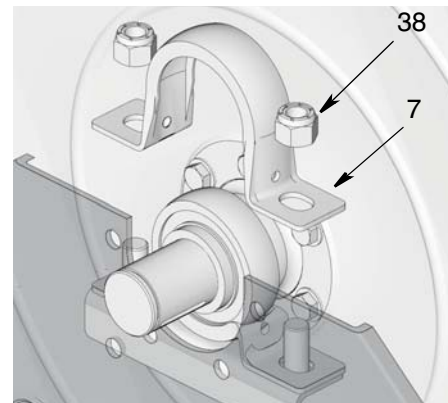

FIG. 15
14. Remove spring side bearing retainer (7), spacers (15) and bearing (8).
- a. Remove nuts (38) (FIG. 15).
- b. Insert a flat blade screw driver under the retainer (7) to pry it up and remove it (FIG. 15).
- c. Remove spacers (15) and bearing (8).
16. Remove inlet (6) .